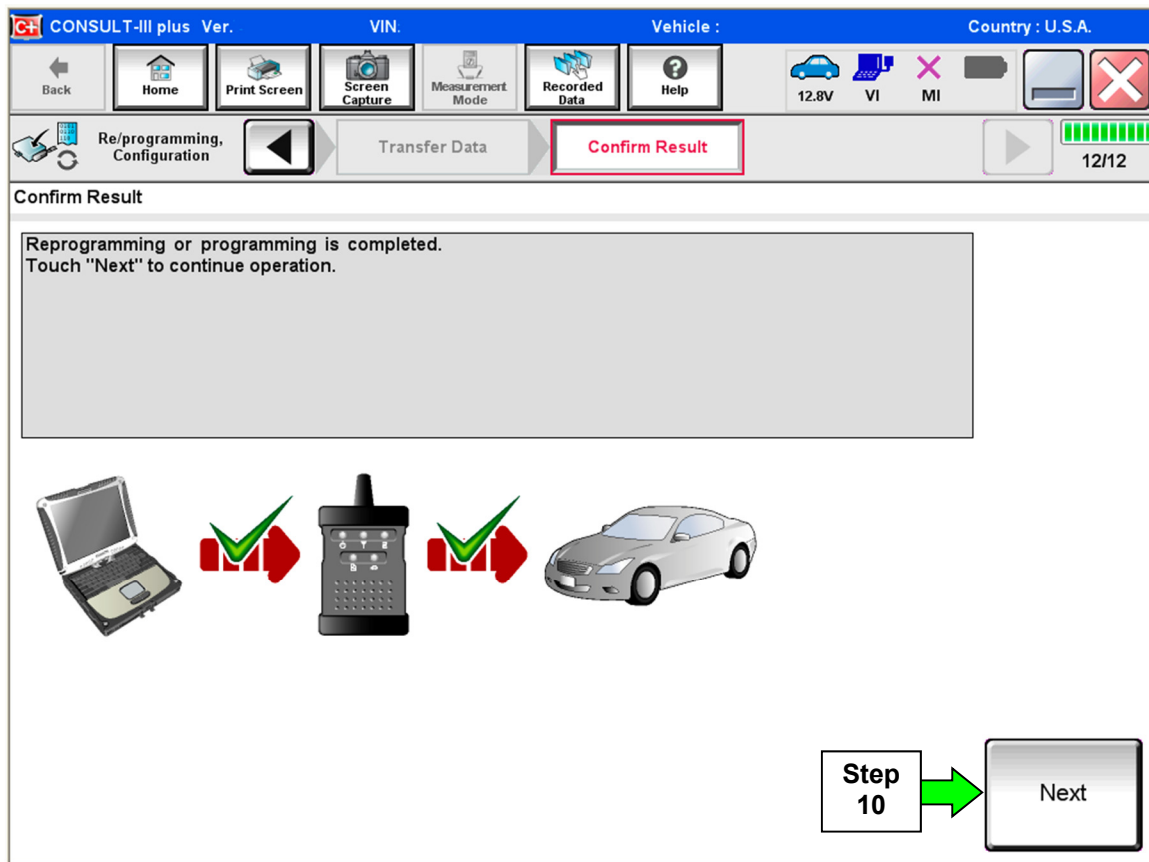

Figure 5
8. When the screen in Figure 5 displays, reprogramming is complete.
NOTE: If the screen in Figure 5 does not display (indicating that reprogramming did not complete), refer to the information on page 8.